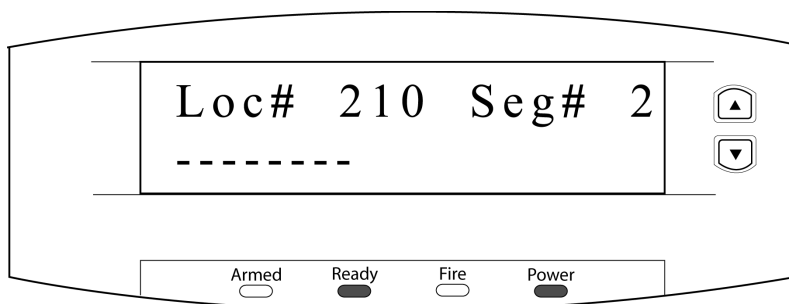

Figure 10: Alarm Panel - Location 210, Segment 2
2. Select the ***** key to save the selection and move to the next segment. For Location 210, Segment 2, all numbered options must be toggled to the OFF position. Once completed, the LCD will look similar to Figure 10.